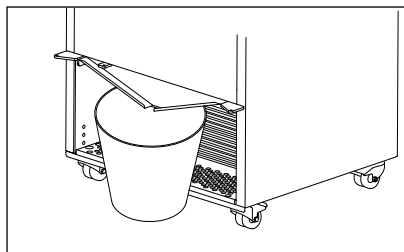

fig. 12
3. Position a bucket or a suitable container under the defrost water drain. /see fig 12)